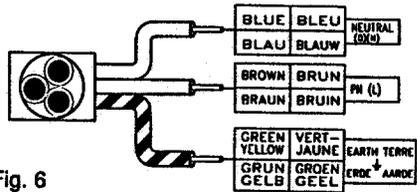

Fig. 6
- The remaining wire coloured black or brown should be connected to the terminal marked with the character "P, L, or F". (See figure 6)